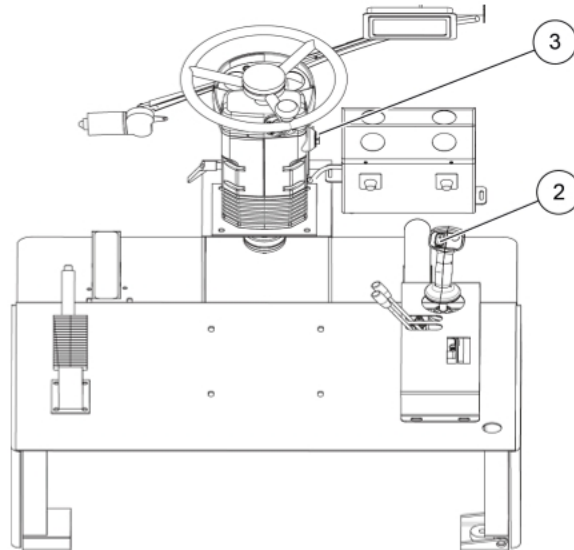

Figure 5-22 Operation platform
Step 3: Insert the key into the starting switch (3), the ignition switch is in "OFF" state (4), as shown in Figure 5-22 and 5-23;
Step 4: Check and make sure that the travel control switch (2) is in the middle position, as shown in Figure 5-22;